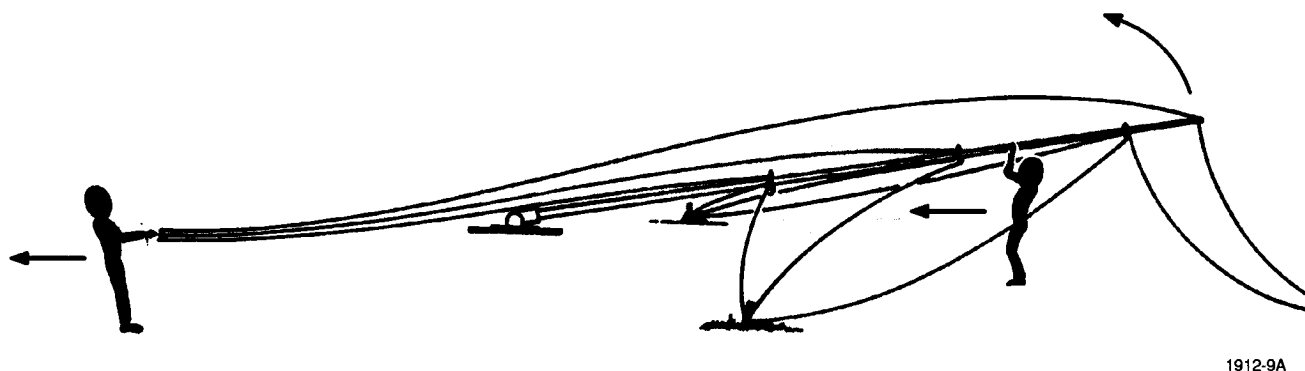

Figure 2-9. Raising a Mast Assembly
- o. Raise each mast to a vertical position by lifting from under the mast and pulling out on the remaining three guy ropes. See figure 2-9.